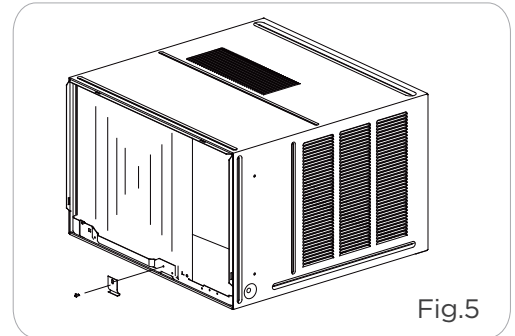

Fig.5
3. Engage the chassis fixing brackets into the bottom cabinet rail and secure to the base with the screw provided. (See Fig.5).